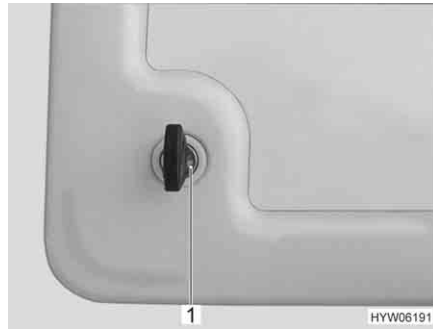

Fig. 42 Push-button lock service flap
- Insert the key into locking cylinder of the lockable push-button lock (Fig. 42,1) and turn a quarter turn. The push-button lock is unlatched.
- Insert the key into locking cylinder of the lockable push-button lock (Fig. 42,1) and turn a quarter turn. The push-button lock is locked.